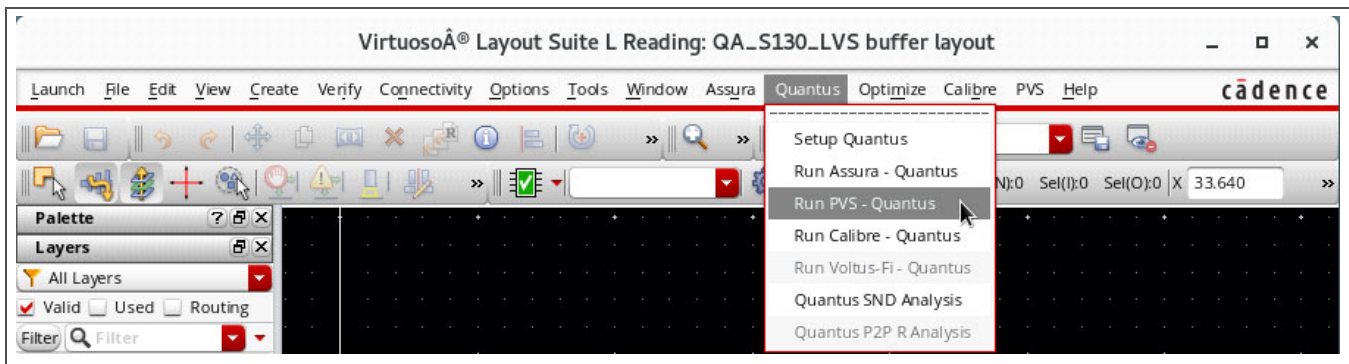

Figure 6-8. PVS Quantus Tool Option
- From the layout view, select **Quantus > Run PVS > Quantus**, as shown in *Figure 6-8*, to open the Quantus (PVS) Interface form shown in *Figure 6-9* on page 96. Click **OK**.